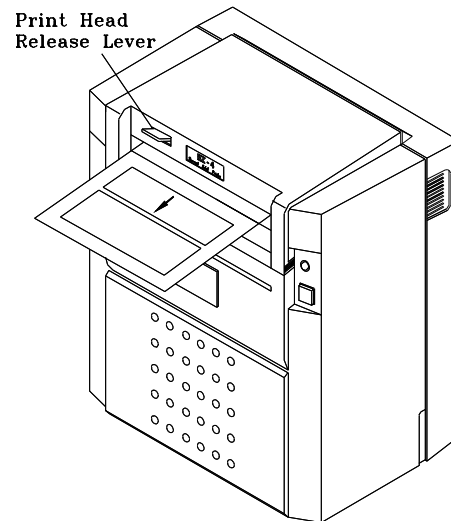

fig. 3.1.2
14. Lift the print head release level, and then you can draw out or adjust the label roll (see figure 3.1.2).